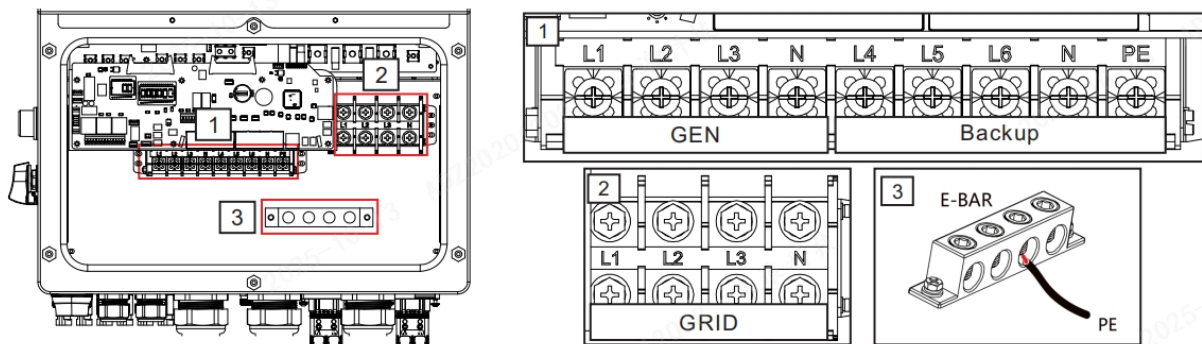

Figure 5-10 AC terminal in inverter wiring box
1. The communication cable from the hybrid inverter to the battery cabinet. Connecting the one CAN cables (with the label L071101-02150) reserved in the integrated cabinet according to Figure 5-10. Connect the end with the RJ45 to the communication interface of the hybrid inverter. The following is the interface definition.